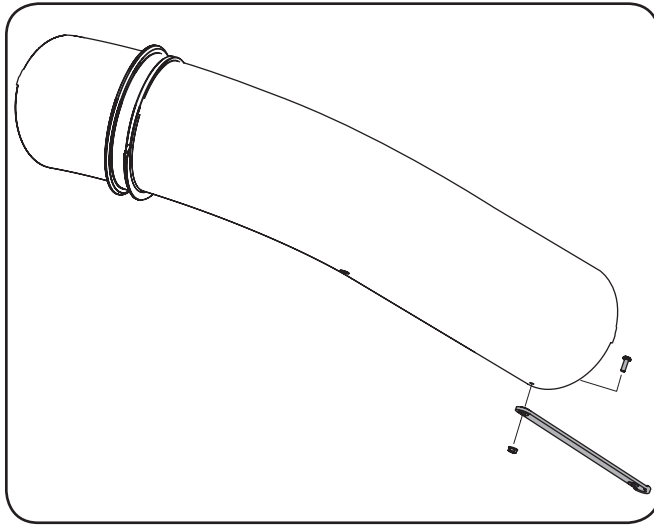

Figure 4-19
2. Attach the rubber strap (723-04009A), from hardware pack 689-00329, to the upper chute tube using the machine screw (710-0924) from the same hardware pack. Secure with a flange lock nut (912-3027) supplied in the same hardware pack. See Figure 4-19.